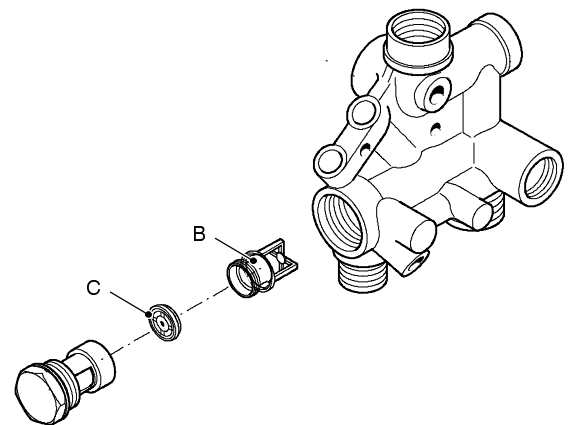

fig. 63
- 2 Unscrew the part B (fig. 63) and remove it from the body of the filter.